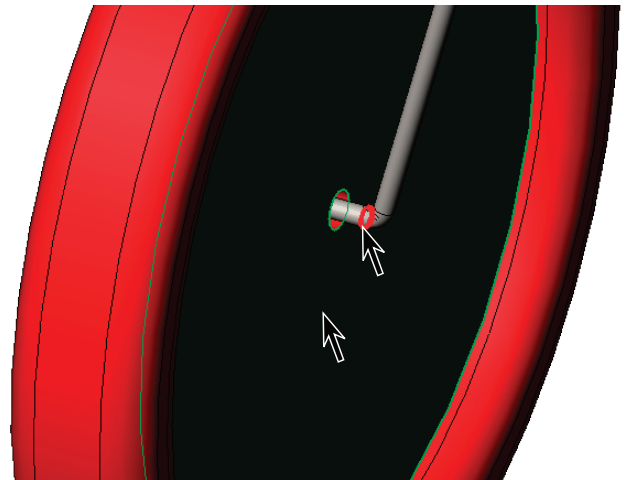

Fig. 11
Step 5. Click **side face of wheel** and **edge of horizontal section of wire**, Fig. 11.